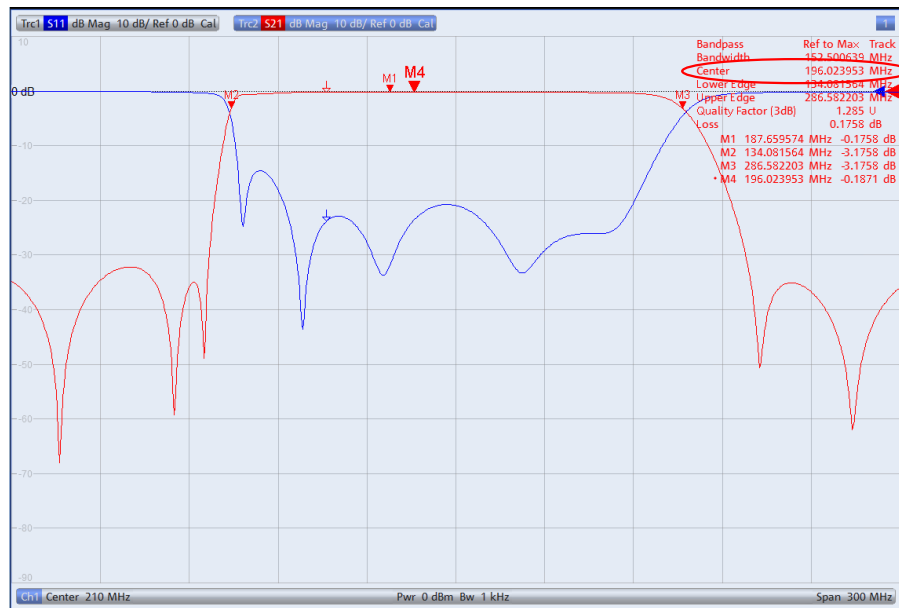

Fig. 2-32: Display of all relevant values for a bandpass.
- Bandwidth*: Enter 3 dB and then enable *Bandpass Ref to Max*. As shown in Fig. 2-32, all relevant values for the bandpass are displayed at the top right corner of the screen.
- By default, the geometric mean (marker M4) $f_0 = \sqrt{f_H \cdot f_L}$ ($f_L=M2$; $f_H=M3$) is displayed for the center frequency; in this case: $f_0= 196.023953$ MHz (Fig. 2-32). To display the arithmetic mean: